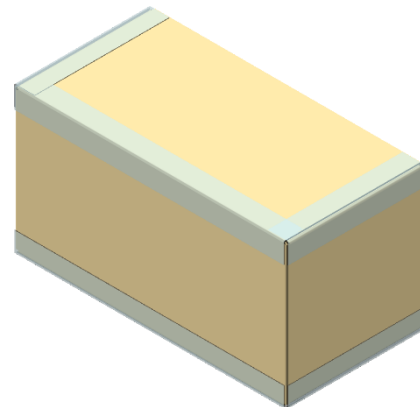

Figure 2: Closure of FOL box
- **FOL** (Full Over Lap Container) See Figure 2